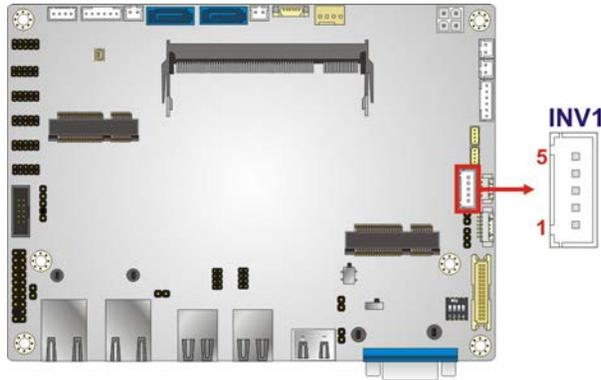

Figure 3-15: Backlight Inverter Connector Location
- CN Location:** See **Figure 3-15**